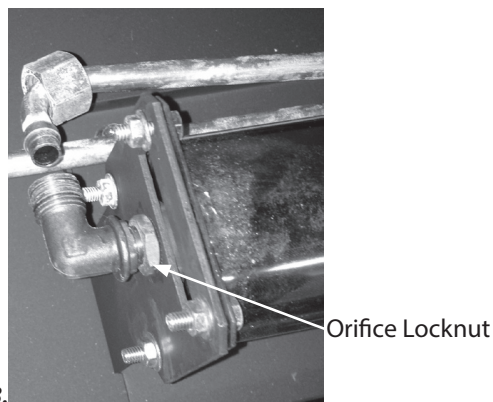

Figure 3.
Step 7: Loosen the orifice locknut (Figure 3, 13 mm) and unscrew the NG burner orifice from each of the burners
Step 8: Screw an LP orifice into each burner until the orifice is aligned with the supply tube. See Figure 3.